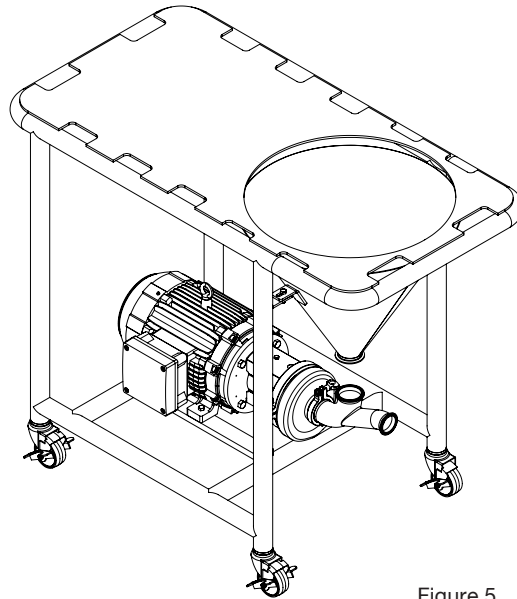

Figure 5.
6e. Continue mounting the hopper on the tabs at the sides of the poles of the table. Use the hexagonal screws (T3) and nuts (T4) to maintain in position the hopper but do not tight them yet so you can lift the hopper to install the ball valve (V). **Figure 5.**